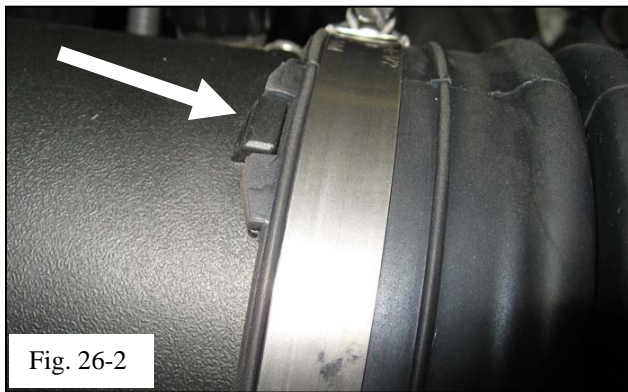

Fig. 26-2
- (1) Position the inlet hose so that alignment tabs correctly clock the orientation (Fig. 26-2).
- (2) Tighten the hose clamp.